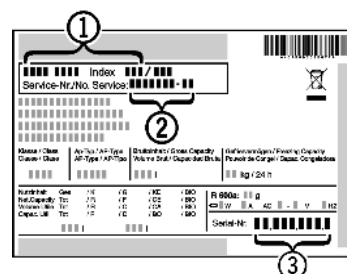

Fig. 56
- ▶ Read off the appliance name *Fig. 56 (1)*, service no. *Fig. 56 (2)* and serial no. *Fig. 56 (3)* from the model plate. The model plate can be found on the inside of the appliance on the left.